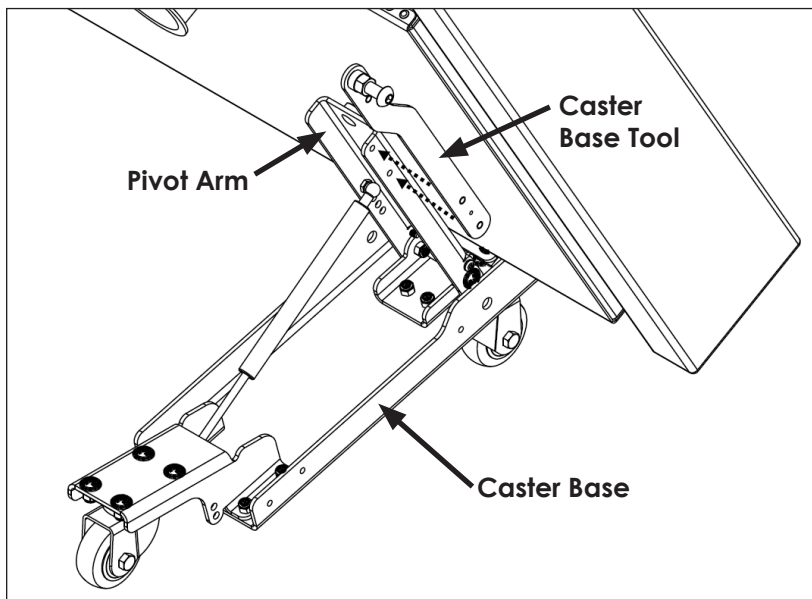

Figure 18: Insert Caster Base Tool into Pivot Arm
2. Locate the Caster Base Tool in the bottom channel of the right caster base. Line up and insert the studs on the Caster Base Tool with the mating holes in the side of the pivot arm on the caster base. Refer to **Figure 18**.